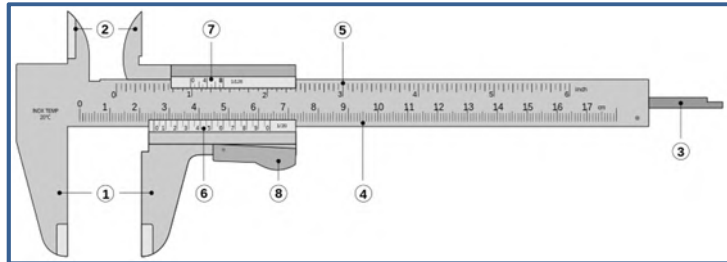

Fig 6 : A Vernier Caliper (Wikipedia, 2018)
A Vernier caliper (fig 6) allows a direct reading of distances measured on a workpiece or engine component, with high accuracy and precision. The tool can measure internal dimensions (2), external dimensions (1), and in many cases depth by the use of a probe that is attached to the movable head and slides along the center of the body (3).